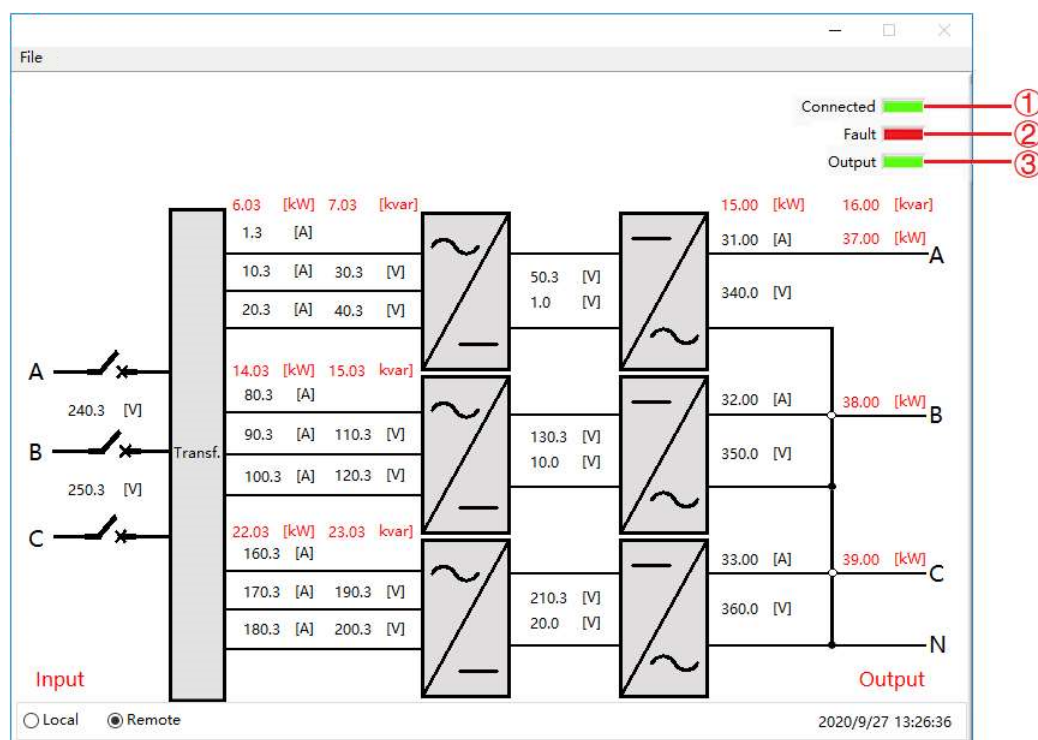

Figure 5-1 Main panel
EAC-4Q-GS provides GUI software, which is installed on the front touch screen using the Windows OS. (the software can also be installed on the control PC connected to the power supply). A few seconds after the power supply is initialized, the control unit and touch screen work, the power supply is standby. If the power supply communication is normal, the white light (Figure 3-3①) and the “connected” green light (Figure 5-1①) is always on. All functions and parameters can be accessed through the TFT-Touch panel or GUI software to set up and run.
Output On	It is used for the output side on/ off, the button is green while outputting, and the green indicator of "Output" is always on (Figure 5-1③). When there is no output, the button becomes red.